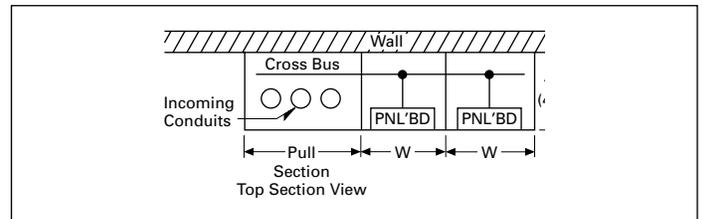

Figure 21.1-9. Section Plan View
2. With a bussed auxiliary structure for incoming cable per **Figure 21.1-9**.